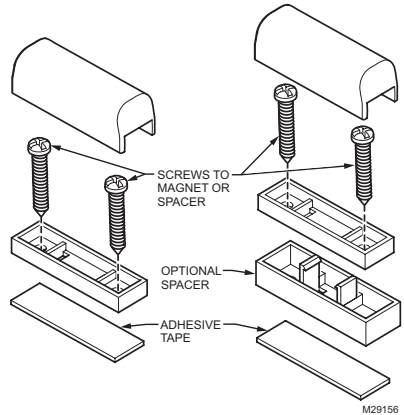

Fig. 9. Door magnet mounting options.
8. Secure the magnet to the door by using the two screws or adhesive tape provided. An optional spacer is provided, as well. See Fig. 9.